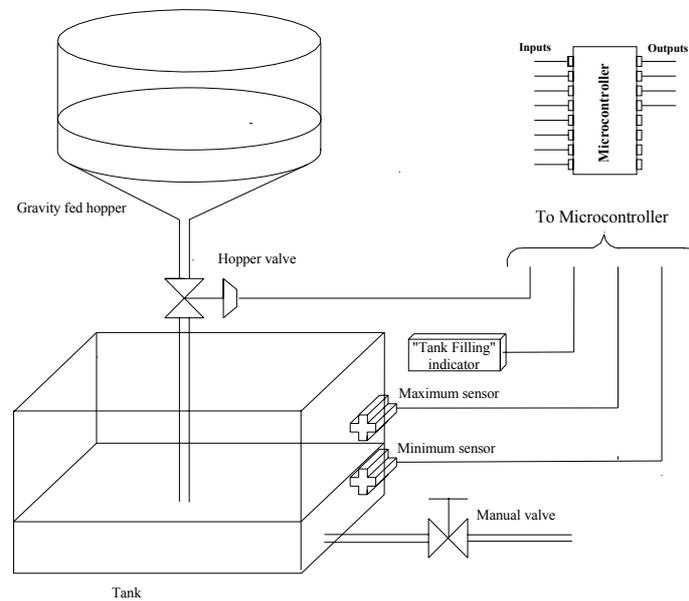

Figure Q9
9. Figure Q9 shows an ON/OFF level control system. The tank level is controlled between two preset limits by a microcontroller which opens/closes the “hopper valve” when required.
- (a) Identify and allocate microcontroller I/O in Figure Q9.